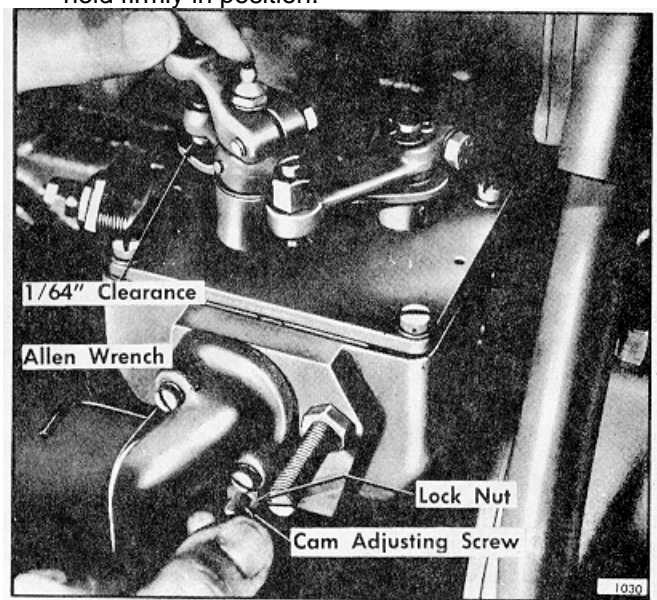

Fig. 7 - Modulating Cam Adjustment
Use an Allen wrench and loosen the cam lock screw (50) only enough (1/8 turn) to permit turning the cam adjusting screw (48) with the fingers. If the lock screw is backed out further, the cam may be released and turned by its own weight out of the operating position. With the control lever in the full throttle position, Fig. 7, thread the cam adjusting screw (48) outward with the finger tips until the cam (47) can be felt bottoming against the roller on the bottom of the differential lever (35). Thread the cam adjusting screw outward an additional 1/8 turn to provide positive engagement between the differential lever roller and the cam. After making contact, it may be necessary to turn the screw
very slightly IN or p: OUT to produce the final 1/64" clearance illustrated in Fig. 7, which is required after the Allen screw has been tightened. Tighten the lock nut (49); also install the plugging screw (51).